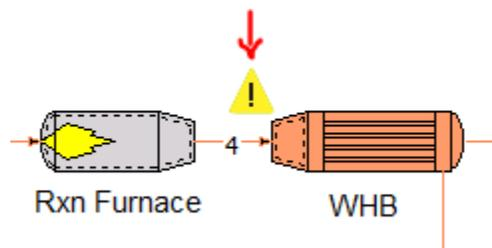

Figure 4. Block Warning Indicator Icon
There is a warning icon displayed next to each individual block, provided that block has a warning associated with it at the end of runtime. The message lists and details the warnings associated with that particular block as seen in Figure 4.
**PROTIP:** The new warning system makes it much easier to pin point where the problems are in the simulation. A Block Warning is indicated by a yellow triangle, as shown in Figure 4, but a critical error which stops all flowsheet calculations is indicated by a red triangle making it much faster to pin point which block the simulation was forced to stop on.